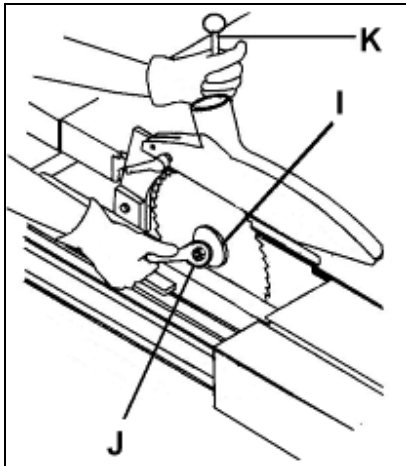

Fig 14
Loosen the arbor nut (J, Fig 14) while stopping the arbor against rotation with the locking pin (K).